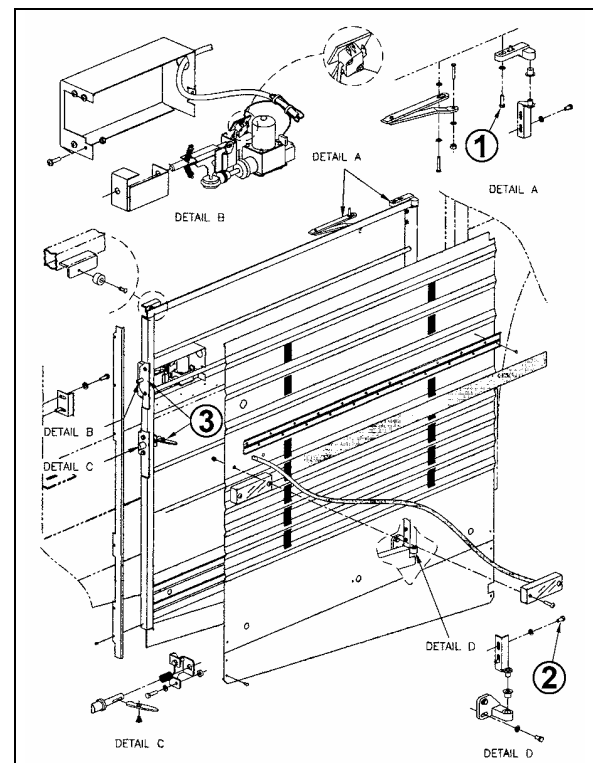

FIGURE 31: ENGINE COMPARTMENT R.H. SIDE DOOR 18635
1. Loosen the bolts, (1, Fig. 31) holding the hinge to the vehicle structure to shift the door "IN or OUT" and "UP or DOWN".
2. Loosening the bolts (2, Fig. 31) allows the door to be shifted "LEFT or RIGHT" and "UP or DOWN".
To adjust the latch mechanism (3, Fig. 31) and the striker pin: